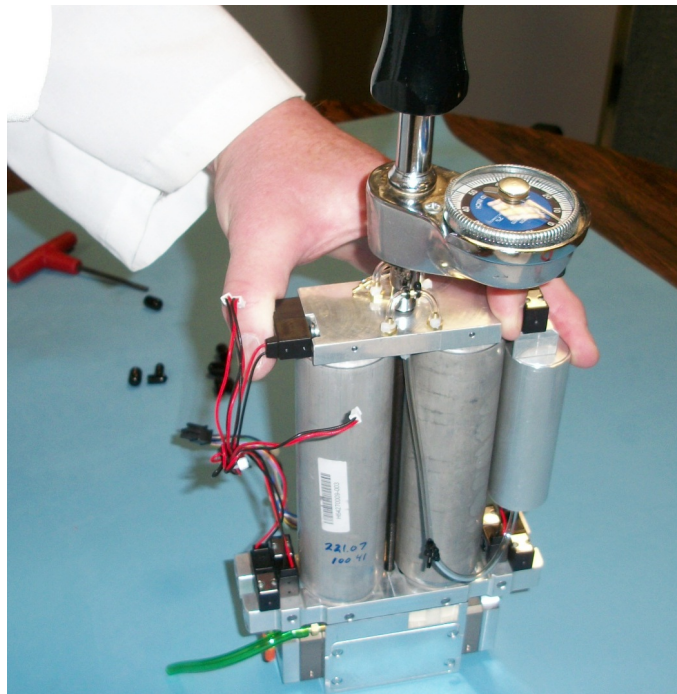

Figure 5.21
5. Connect the new compressor to the PSA assembly, and tighten the bolt to a torque of 15 in-lbs. (See Figure 5.21.) Be sure the gasket is in place.